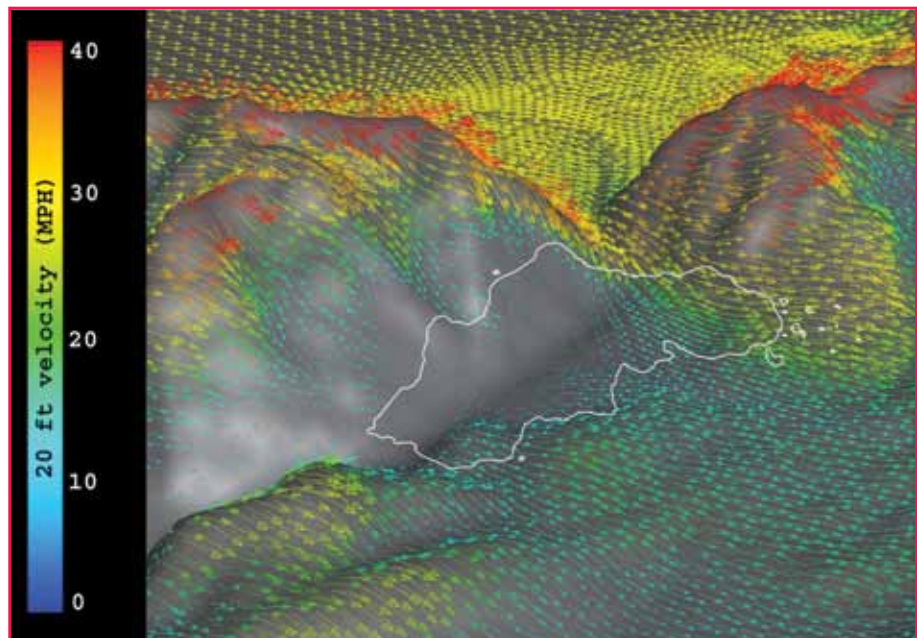

Figure 6—WindWizard predicts wind patterns across a landscape, 2010. Source: Bret Butler, Missoula Fire Sciences Laboratory.
- Mathematical models are being used to map wind flow (fig. 6). This information improves the accuracy of fire spread predictions.